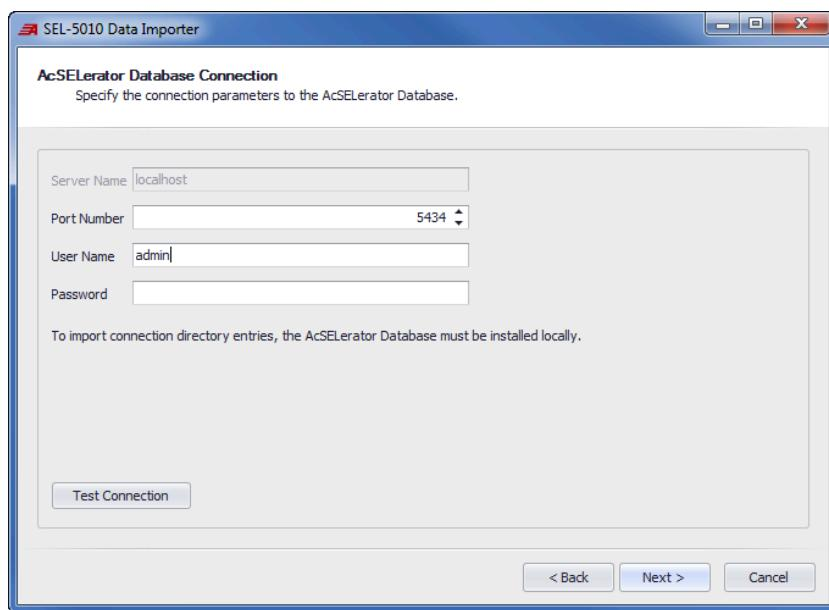

Figure 9.2 Log in to the ACCELERATOR Database
- Step 3. Enter the username and password necessary to log in to the ACCELERATOR Database. The default username is **admin** with no password. The port number is 5434. You can verify that you have the correct connection parameters by clicking the **Test Connection** button, seen in *Figure 9.2*.